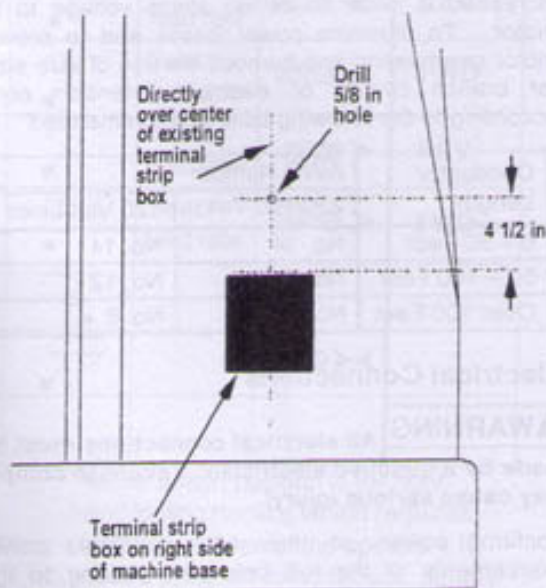

Figure 3
17. Drill a 5/8-inch diameter hole for the pump cable in the machine base (refer to Figure 3).